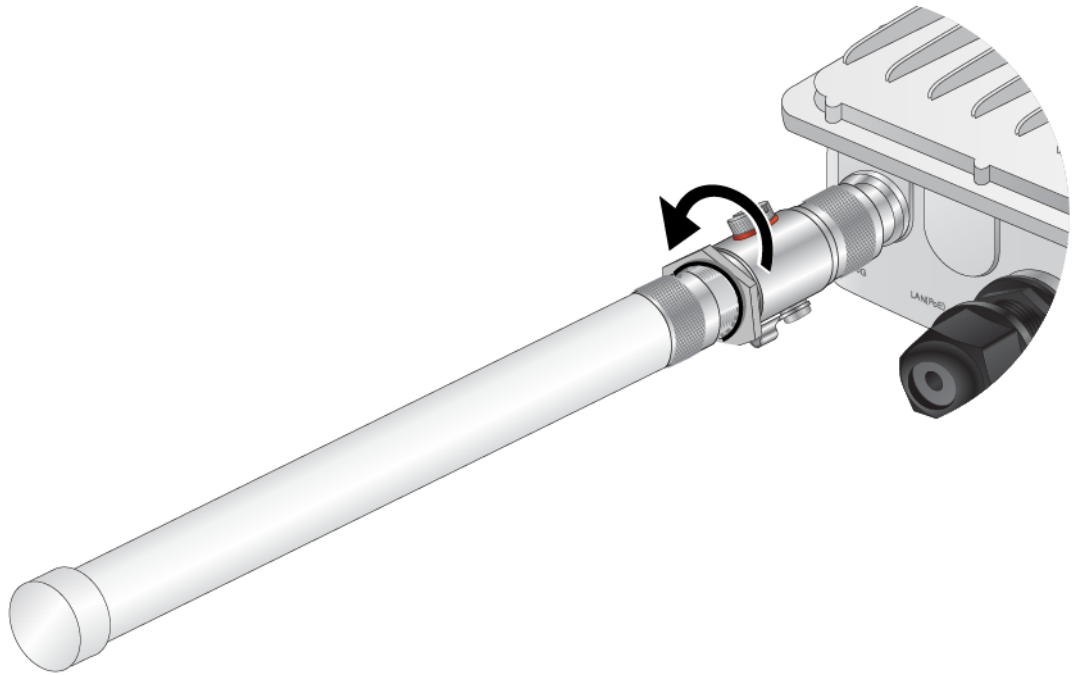

Figure 19. Tightening the Nut to Secure the Antenna
6. Tighten the nut against the antenna to secure the antenna. Refer to Figure 19.